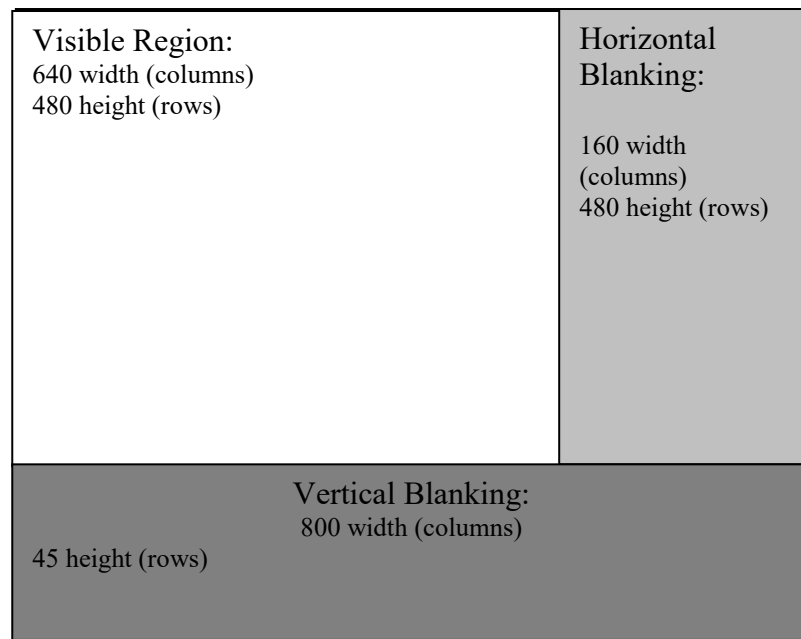

Figure 2. Display Regions
In this lab, you are required to create a 640 pixel x 480 pixel screen display. A pixel clock operating at 25 MHz will be used. To get 640 pixels horizontally, a horizontal synchronization frequency of approximately 31.5 KHz is required. This corresponds to approximately 800 clock periods of the pixel clock. During the first 640 clock periods of the pixel clock for a row, visible pixels can be displayed; however, the last 160 clock periods for the row are called the “retrace period” or “blanking region” where nothing is displayed while the beam retraces back to the left of the screen. To get 480 pixels vertically, a vertical synchronization frequency of 60 Hz is required. This corresponds to approximately (800x)525 clock periods of the pixel clock. This can be thought of as generating 480 visible rows followed by 45 blank rows during which the beam retraces back to the top of the screen. This is illustrated in Fig. 2.
- Generate a signal to determine whether the pixel is in the visible region as illustrated in Figure 2.